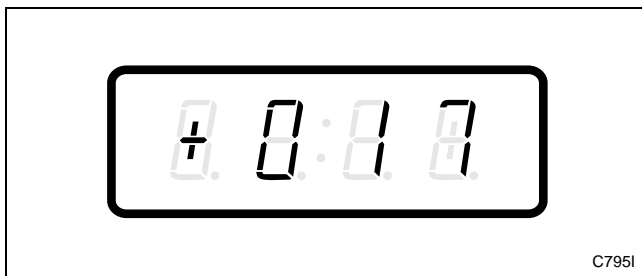

Figure 45
3. Press the DELICATES (+) or the COLD (-) keypad to scroll through the programmable options until “+017” appears in the VFD. Refer to *Figure 45*.